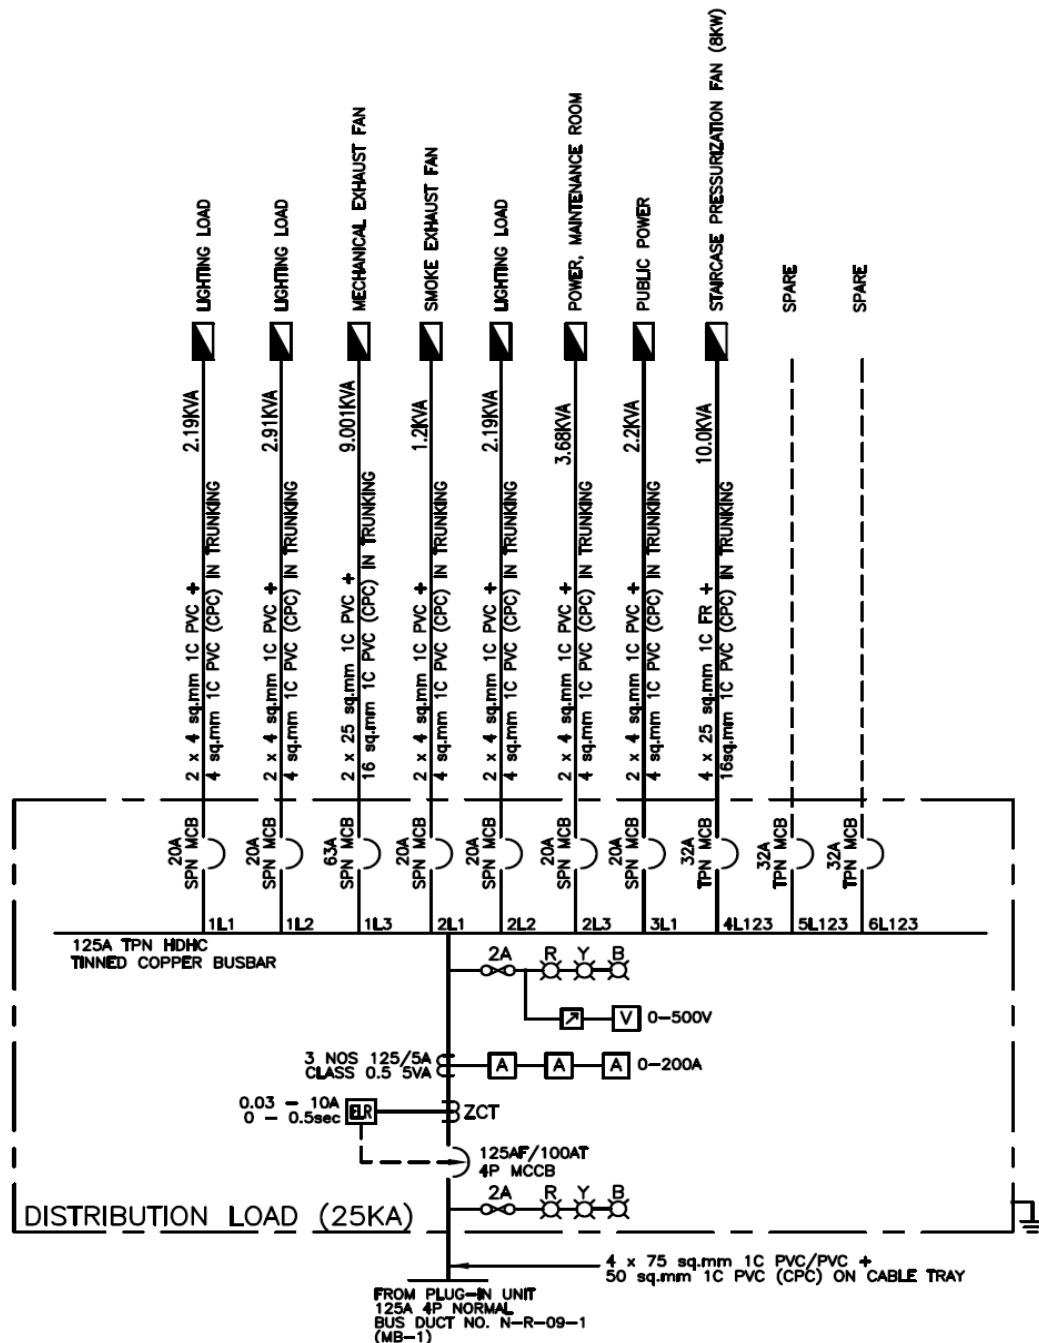

Figure Q1(e)
- (e) Refer to the distribution board shown in Figure Q1(e). A new load, an air handling unit (AHU) rated at 11 kW 3-phase 400V at 0.8 pf, will be added to the distribution board.